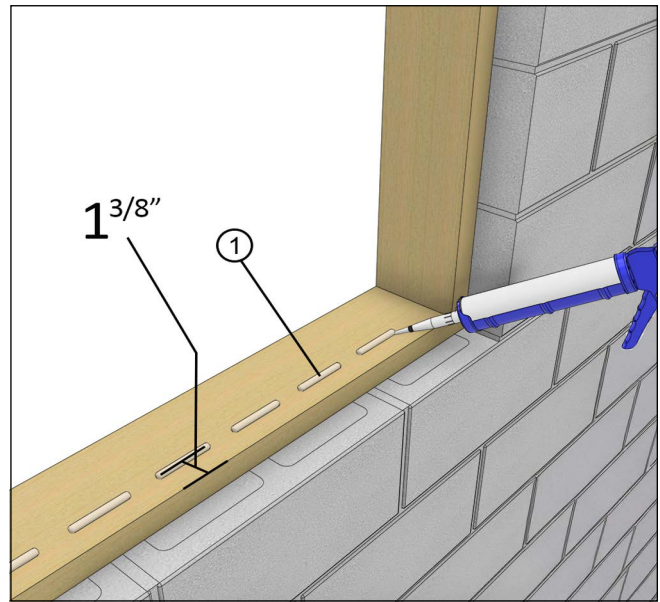

Figure 31
5. Place a discontinuous bead of sealant 1-3/8" from exterior edge of the RO sill stopping short of jamb edge for drainage. See Figure 31.